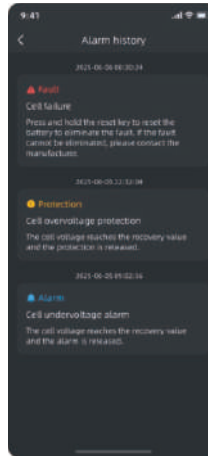

Figure 2
2) Figure 2: Click on "**Alarm Information - Alarm history**" to view the historical alarms of the battery pack.